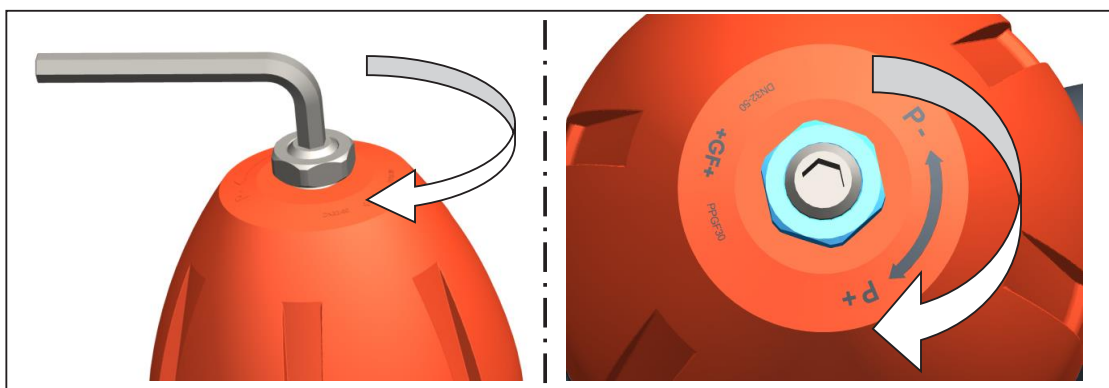

Fig. 4
- ▶ In order to increase the setpoint value: Tense the spring. To do so, turn the spindle clockwise, see Fig. 4